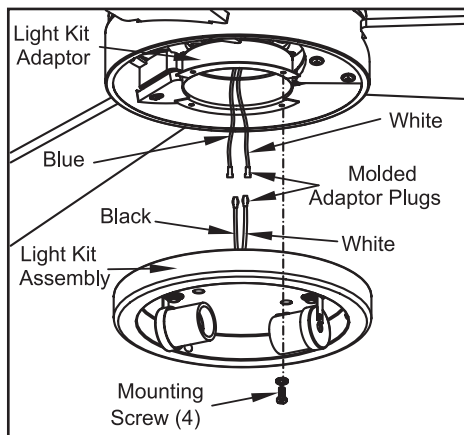

Figure 11
1. Loosen but do not remove three of four mounting screws from the light kit adaptor below the fan motor assembly; remove one mounting screw (Figure 11).